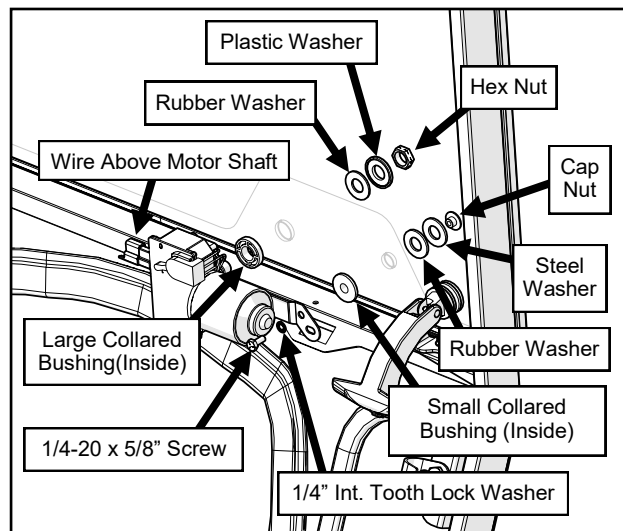

Fig. 9.1 (Windshield Wiper Motor)
- 9.1 Mount the wiper motor to the windshield. See Figure 9.1.